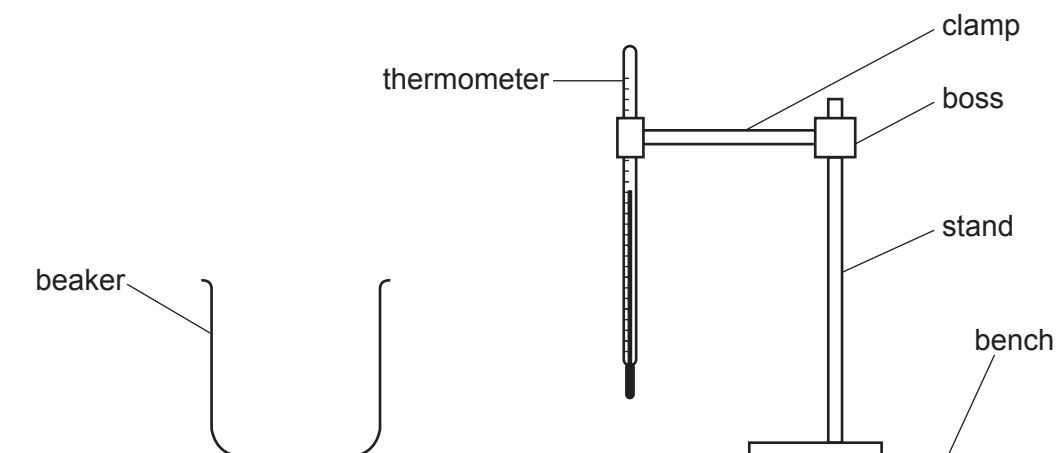

Fig. 2.1
1. The thermometer, clamp, boss and stand are to be set up for candidates as shown in Fig. 2.1. The thermometer bulb must be well below the 150 cm^3 level of the beaker. Candidates must be able easily and safely to read temperatures up to 100°C and to move the thermometer in and out of the beaker.
Check that the apparatus is intact and is arranged as in Fig. 2.1.